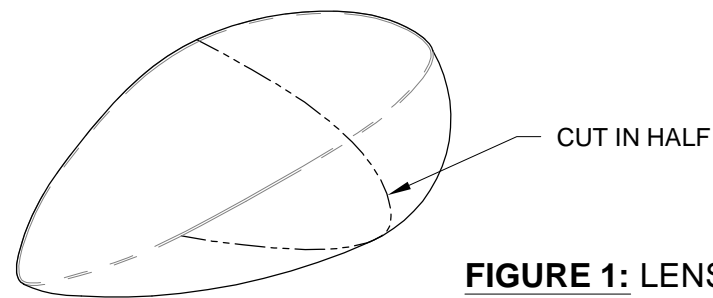

FIGURE 1: LENS MODIFICATION
Step 2: Cut the VA-193 Wing Tip Light Lens in half as shown in Figure 1. Determine the right and left lenses by placing them on their respective wing tips, then set the VA-193-R Right Lens aside.